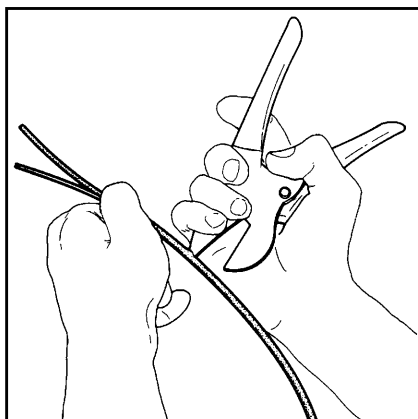

Fig. D3
4. Determine, approximately, the required length of the individual grease lines in a composite (polyamide) line, and strip the outer jacket along that length (fig. D3/D4). Make absolutely sure that you do not damage the individual grease lines!